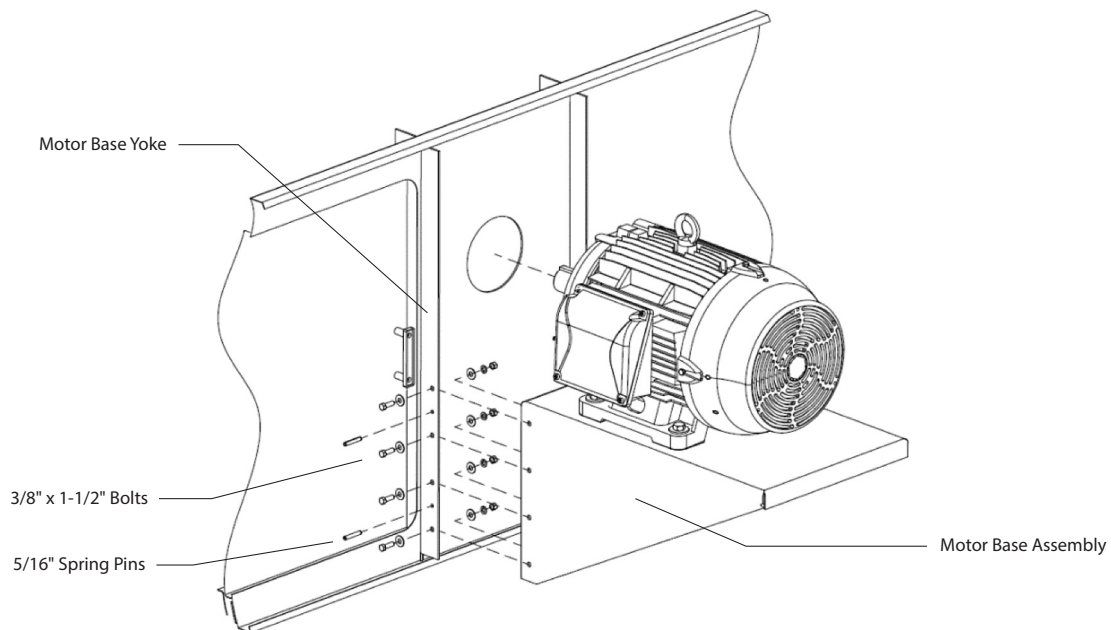

Figure 21 - External Motor Installation for Gear Drive Applications
1. Mount the motor base assembly to the motor base yoke using (4) 3/8" x 1-1/2" grade 5 bolts on each side of the motor base assembly. Do not fasten any hardware until step 2 is complete.
2. In addition to the grade 5 bolts, please install (2) 5/16" spring pins on each side of the motor base assembly as shown in Figure 21.